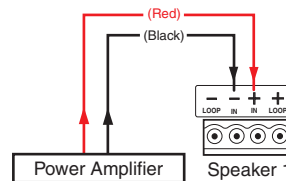

Figure 34. Wiring a Single Speaker
- **Wiring a Single Speaker:** Connect the wires to the captive screw connector of the speaker as shown in figure 34. Be sure to tighten the screws.